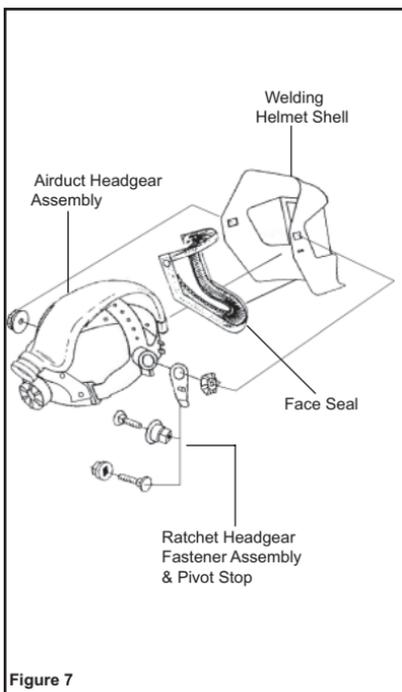

Figure 7
- Line up the airduct headgear with the same square cut out in the face seal with the inside of the helmet, while you screw the parts back in place. (See Figure 7)
**NOTE:** For the **Falcon** Welding Helmet only- There are (3) three rivets installed on the helmet, one on each side of the helmet and one at the chin area.
**NOTE:** For the **Vision** Welding Helmet only- There are (4) four rivets installed on the helmet, two on each side of the helmet.